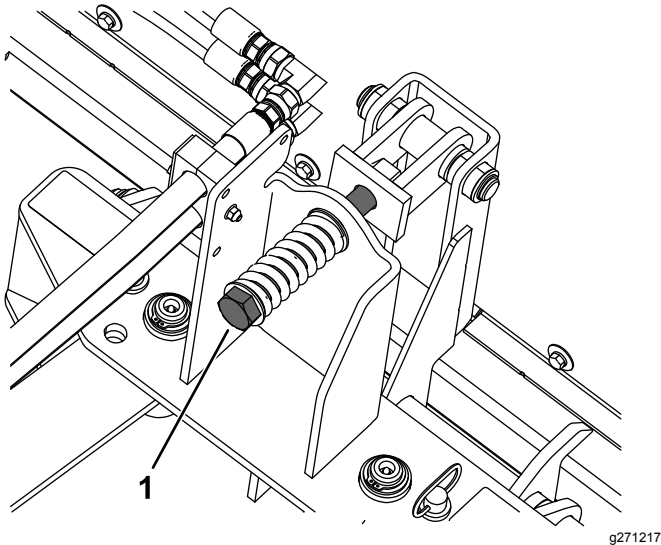

Figure 5
4. Use the adjustment bolt to raise or lower the broom as needed (Figure 5).